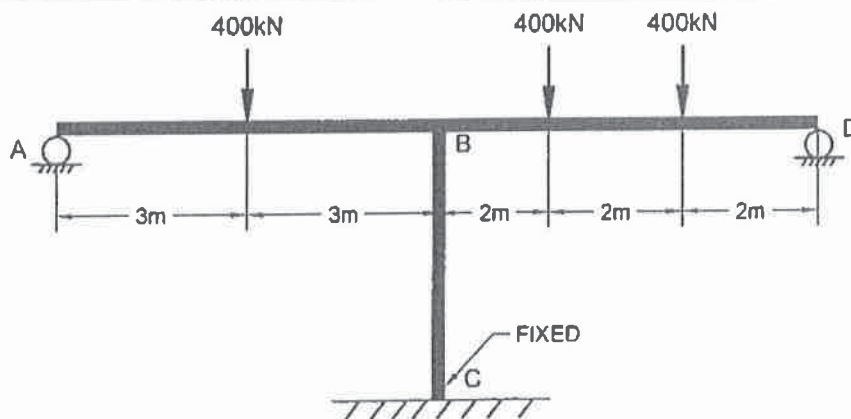

FIGURE 3
5. The reinforced concrete rigid frame in Figure 3 is to be designed for the loads shown, using the ultimate strength method.
(b) Show the layout of the reinforcing steel along joint B in Figure 3.
6. Design the reinforced concrete column BC in Figure 3.
7. Estimate the long-term deflection at mid-span of AB in Figure 3. Also, estimate the size of the support footing at C. Assume a value for the soil bearing capacity of 400 kPa.